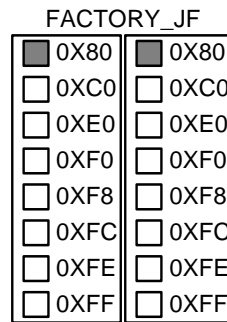

Figure 8: Edit Block View of DCM FACTORY_JF Settings
- Check the two 0X80 options for the FACTORY_JF DCM attribute, as shown in Figure 8.